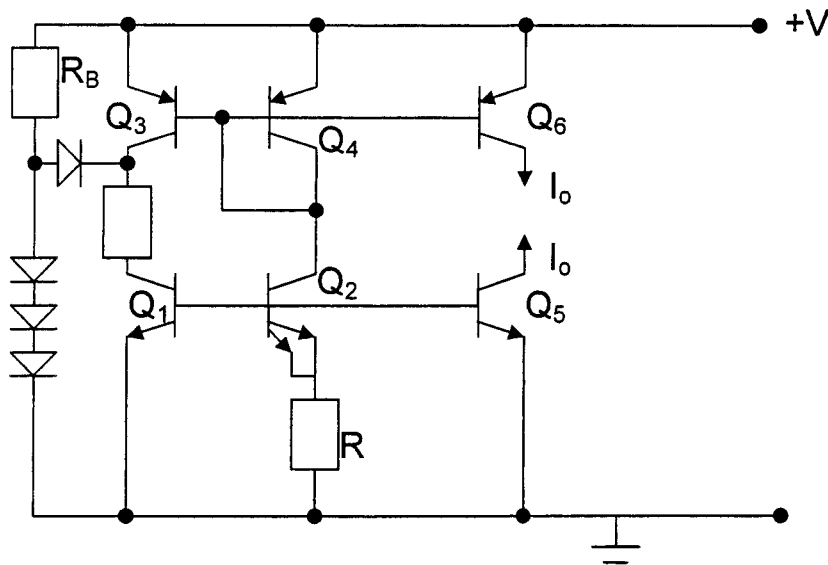

Figure 2.1
- (b) Calculate the fractional temperature coefficient for the constant current generator of Figure 2.1 at room temperature, given that  $R$  is a polysilicon resistor with a temperature coefficient of  $1500 \text{ ppm}/^\circ\text{C}$ .